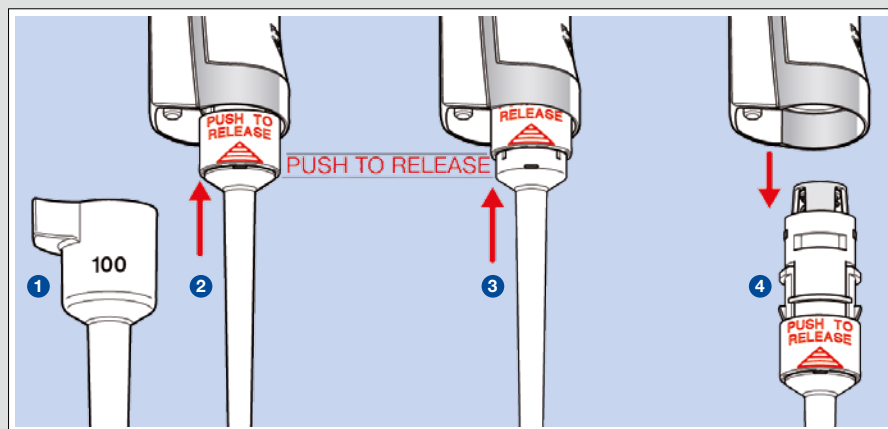

Fig. 4
The Research plus pipettes are easy to clean. The lower part should be cleaned on a regular basis, in accordance with the frequency of use (Fig. 4). Push down the ejector button and pull off the ejector sleeve (1); then slide up the ring on the lower part labeled “PUSH TO RELEASE” (2) by appr. 5 mm (3) until the lower part is released. Take the lower part out of the upper part (4).